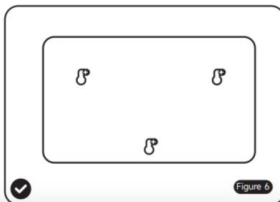

Figure 6
6. Installation complete. (Figure 6)